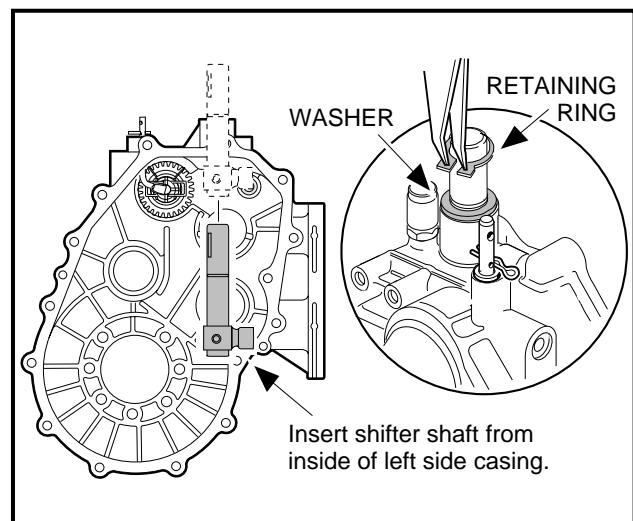

Figure 16-71 Insert Shifter Shaft
6. Install the shifter shaft into the left (driver side) case as shown (**Figure 16-71, Page 16-31**). Then install the washer and using external snap ring pliers (.070 tip), install retaining ring on the shifter shaft outside of the case (**Figure 16-71, Page 16-31**). Make sure the retaining ring is in the groove of the shaft.